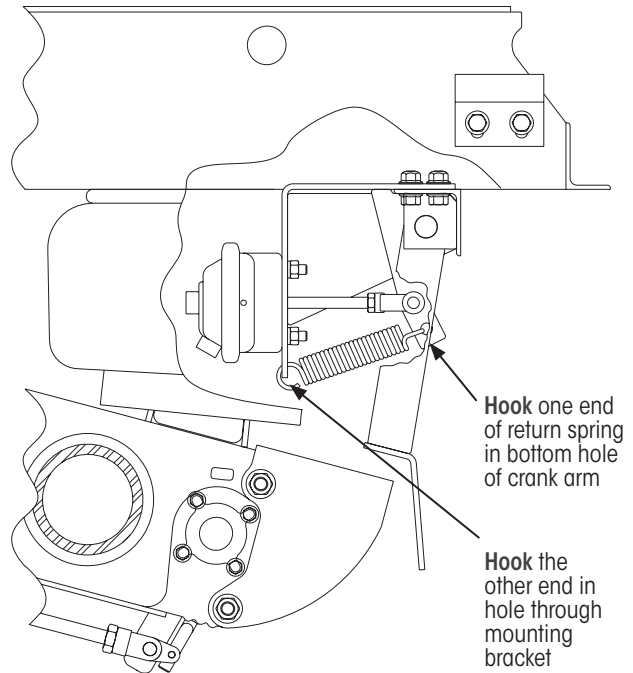

Figure 32: Spring installation details
1. **Hook** one end of the return spring (Figure 32) to the mounting bracket.